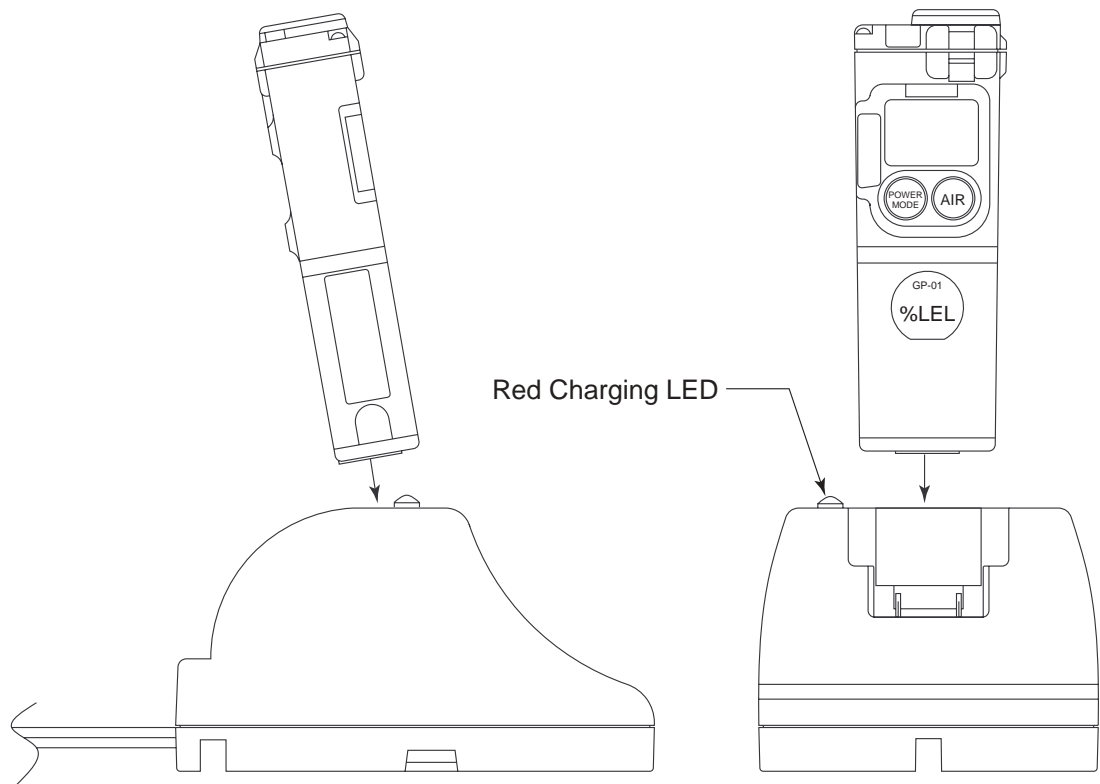

Figure 8: Putting GP-01 Into Charging Station
4. Place the Model GP-01 into the battery charging station as shown in Figure 8 below so that the metal contacts on the back of the unit come into contact with the metal contacts in the back part of the holder in the charging station. When proper contact has been made, the red LED on the charging station will turn on.